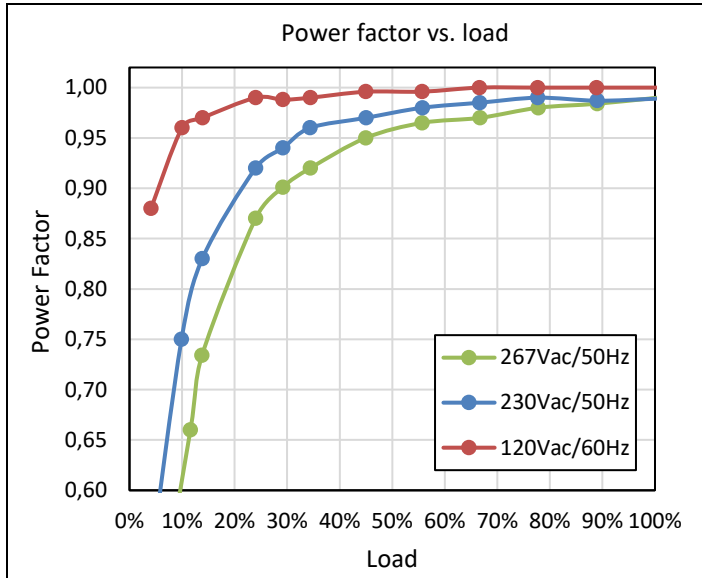

Figure 12 Power factor vs. load
**Figure 12** presents the input power factor with various loads. It shows that even at the mains condition of 267 VRMS/50 Hz (worst input case), the board can still achieve a power factor of more than 0.9 above 30 percent load.